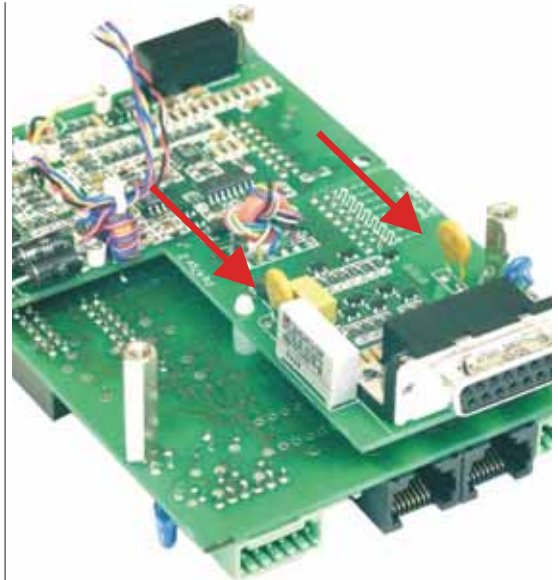

fig. 4 - 14
- Check fuse F27_2 in series with \emptyset (pin 8 of CON E) (see fig. 4 - 14). To check the fuse measure the voltage between \emptyset and the minus output, a high voltage means too much current flowing through the fuse. F27_2 = 650 mA, self resetting.